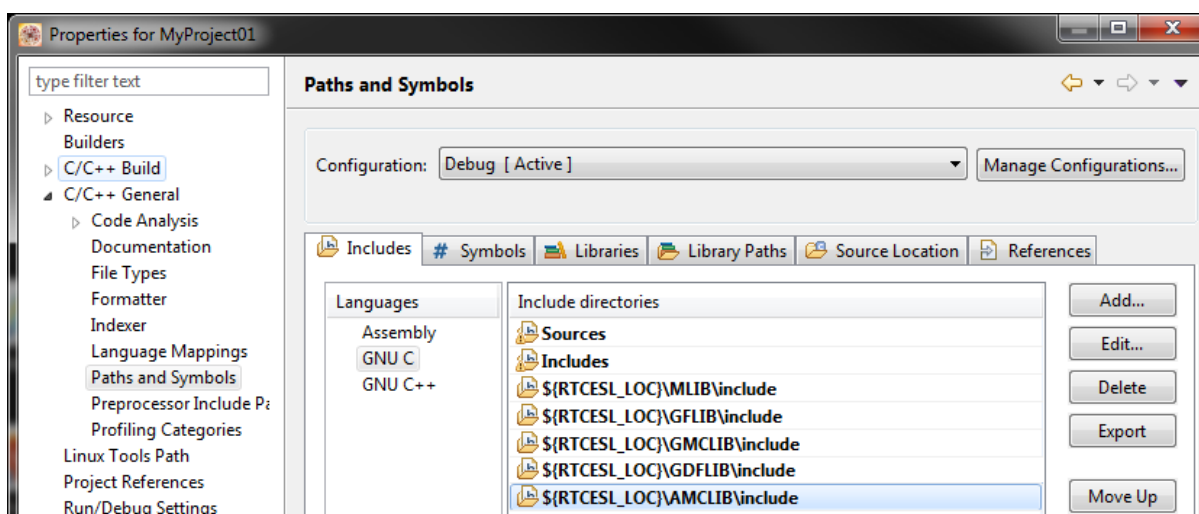

Figure 1-15. Compiler setting
27. In the right-hand dialog, select the Includes tab, and click GNU C in the Languages list. See Figure 1-15.
38. Click OK, and you will see the paths added in the list. See Figure 1-15. Click OK.